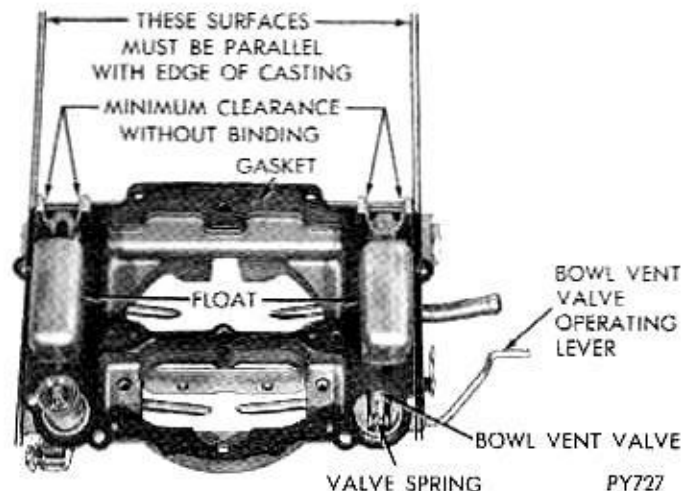

Fig. 8—Checking Float Alignment
(1) Sight down side of each float shell to determine if side of the float is parallel to outer cage of air horn casting (Fig. 8).
(2) If sides of float are not in alignment with edge of casting, bend float lever by applying pressure to end of float shell with thumb. To avoid damage to the float, apply only enough pressure to bend the float lever.
(3) After alining floats, remove as much clearance as possible between arms of float lever and lugs of air horn. To do this, bend float lever. The arms of float